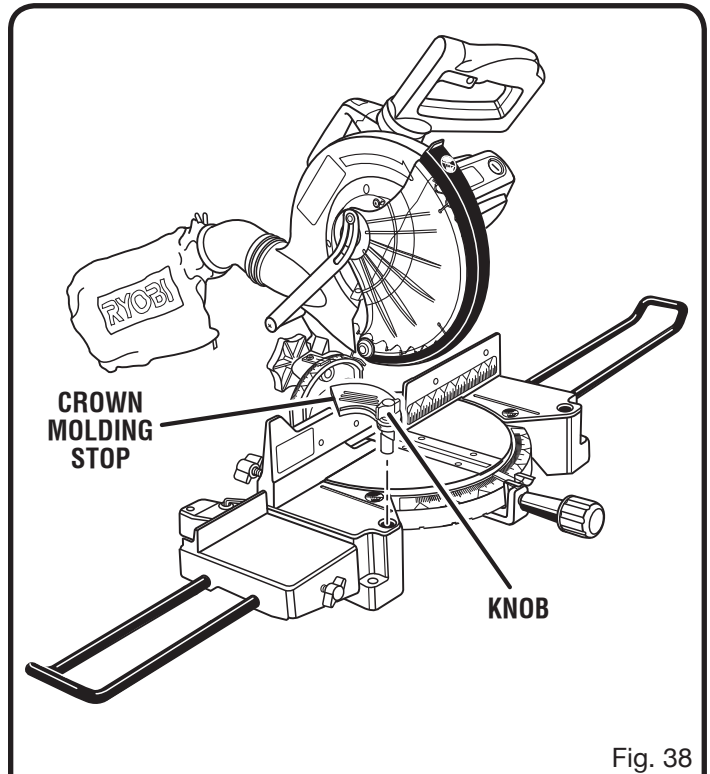

Fig. 38
See Figures 38 - 39.
- Place the stop in the hole on the left side of the saw's base. See Figure 38.